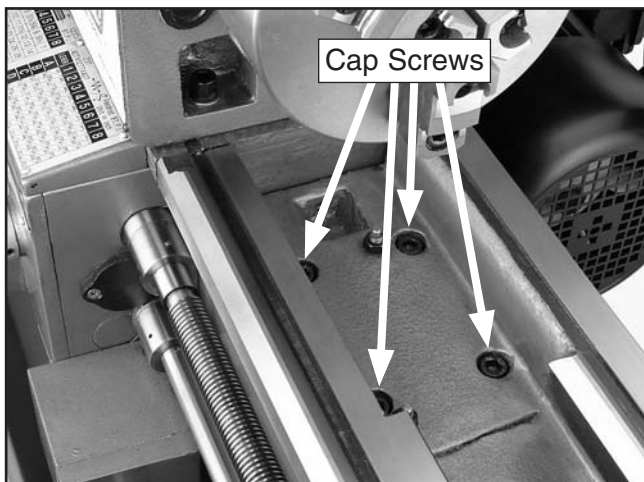

Figure 95. Gap cap screws.
2. Remove the four cap screws that secure the gap to the bed (**Figure 95**).